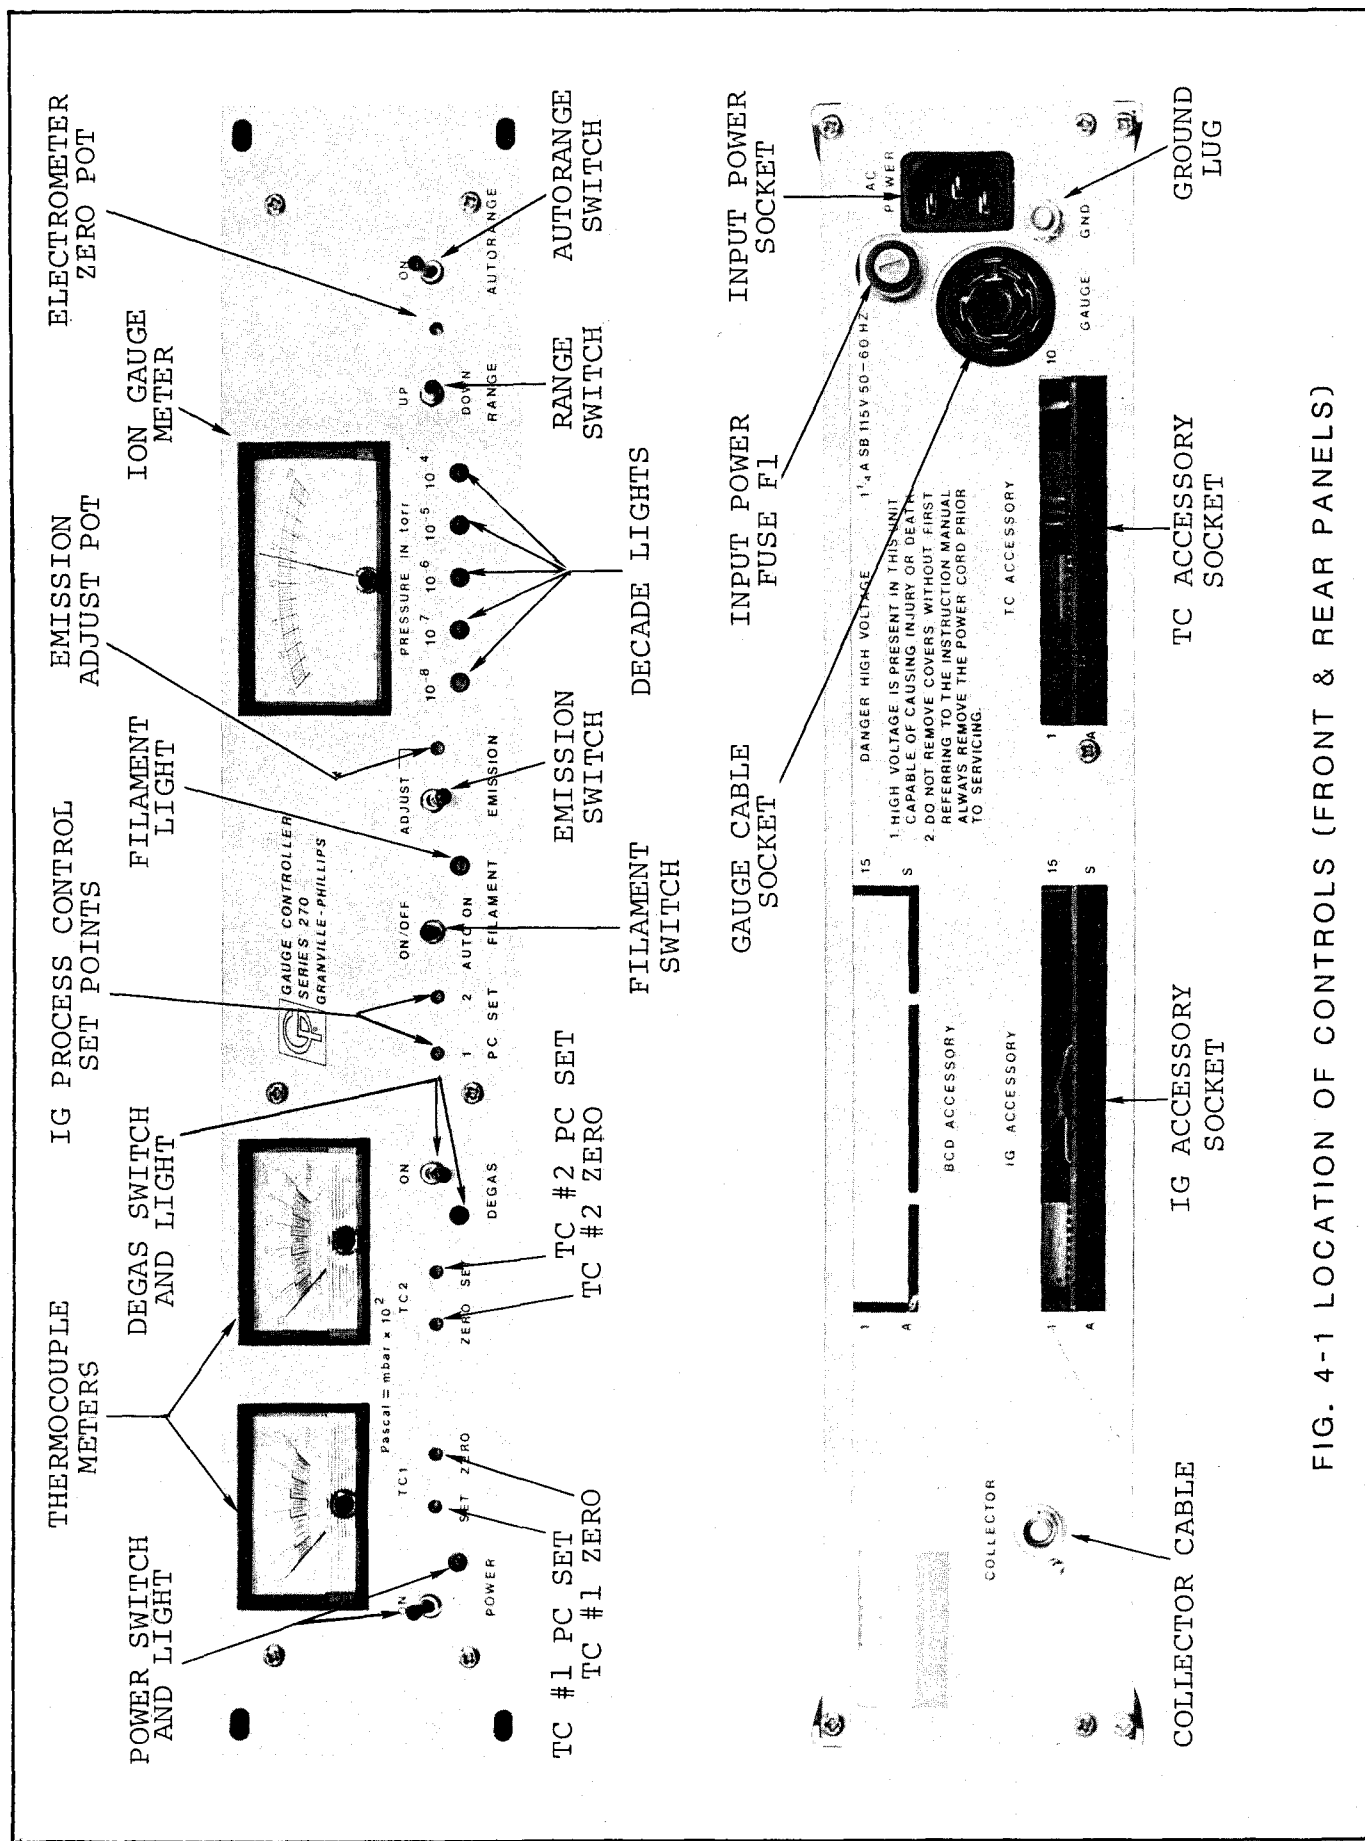

FIG. 4-1 LOCATION OF CONTROLS (FRONT & REAR PANELS)
4.1 Purpose of Controls (Left to right) (Refer to Fig. 4-1)